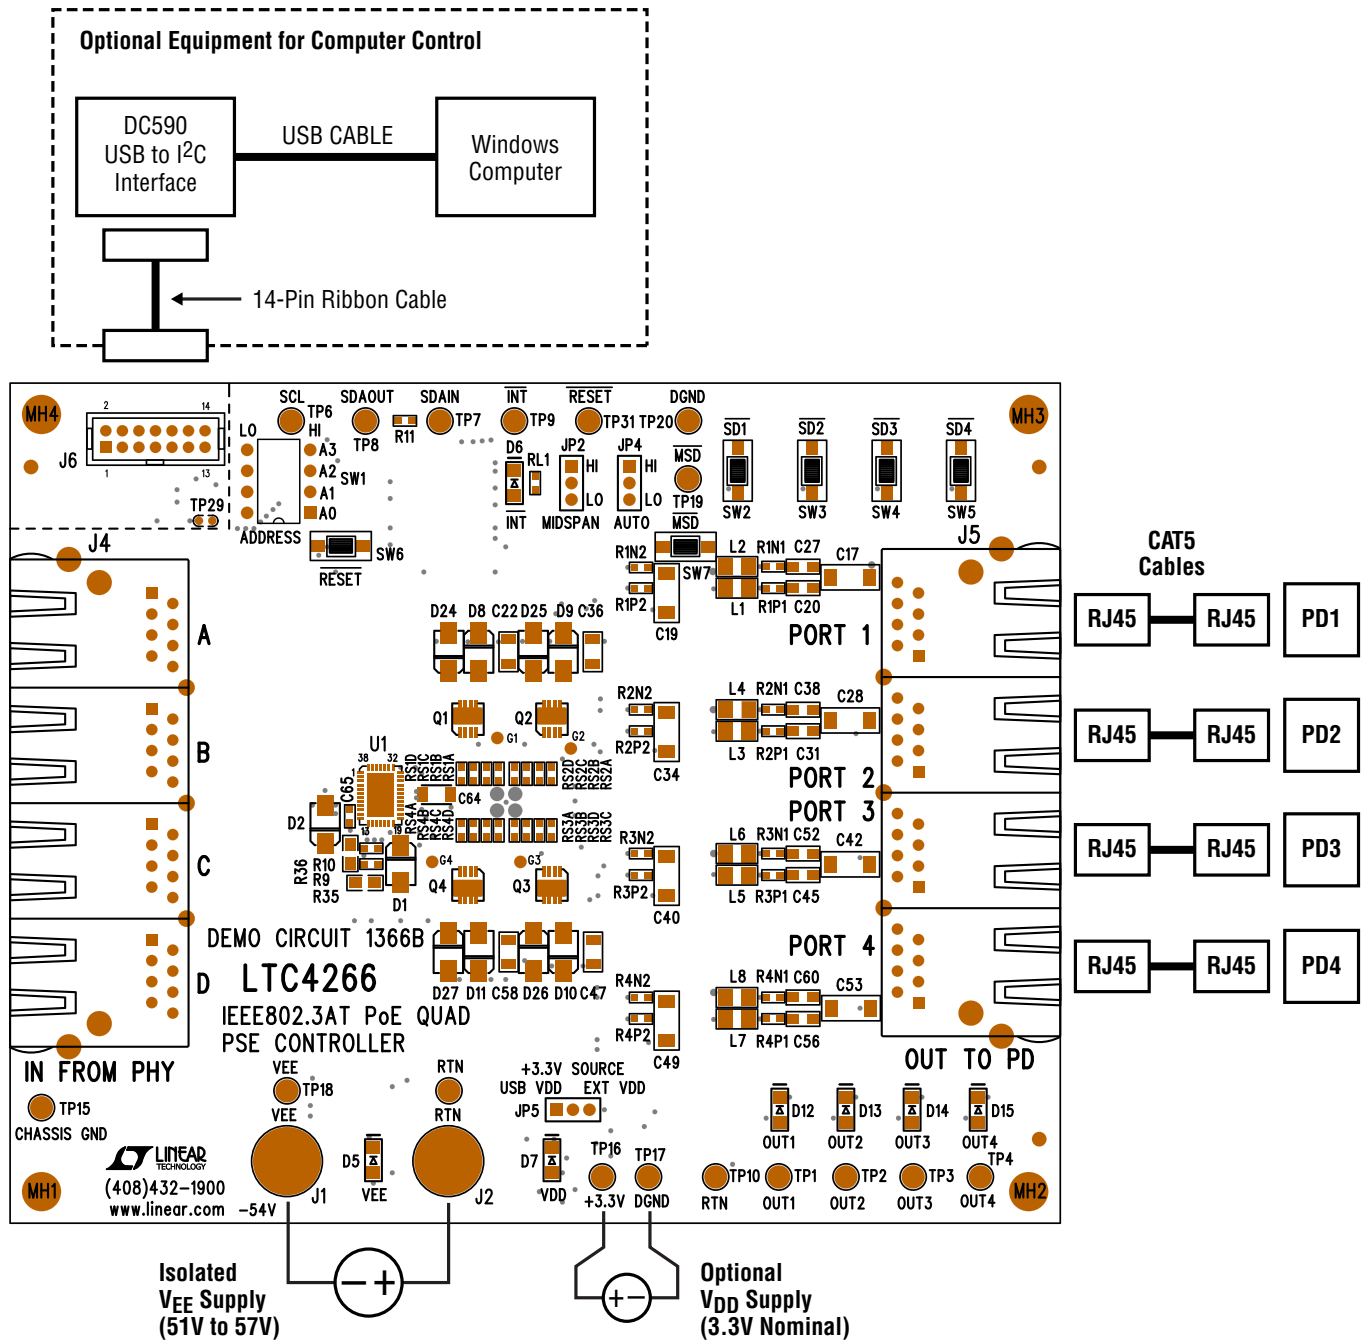

Figure 1. DC1366B Setup
Figure 1 shows the basic setup. The LTC4266 requires two power supply rails: V_{DD} (nominally 3.3V) and V_{EE} (nominally -54V). The V_{DD} supply can be provided by a DC590 board or an external bench supply.
7. Connect the main power supply to the DC1366B with two banana patch cords as shown in Figure 1. **Verify the polarity is correct before turning on the power; positive goes to RTN and negative to V_{EE} .**
2. Connect a 3.3V power supply across +3.3V and DGND test points as shown in Figure 1. Turn on the 3.3V supply and verify the V_{DD} LED on the DC1366B is lit.
4. Connect the main power supply to the DC1366B with two banana patch cords as shown in Figure 1. **Verify the polarity is correct before turning on the power; positive goes to RTN and negative to V_{EE} .**